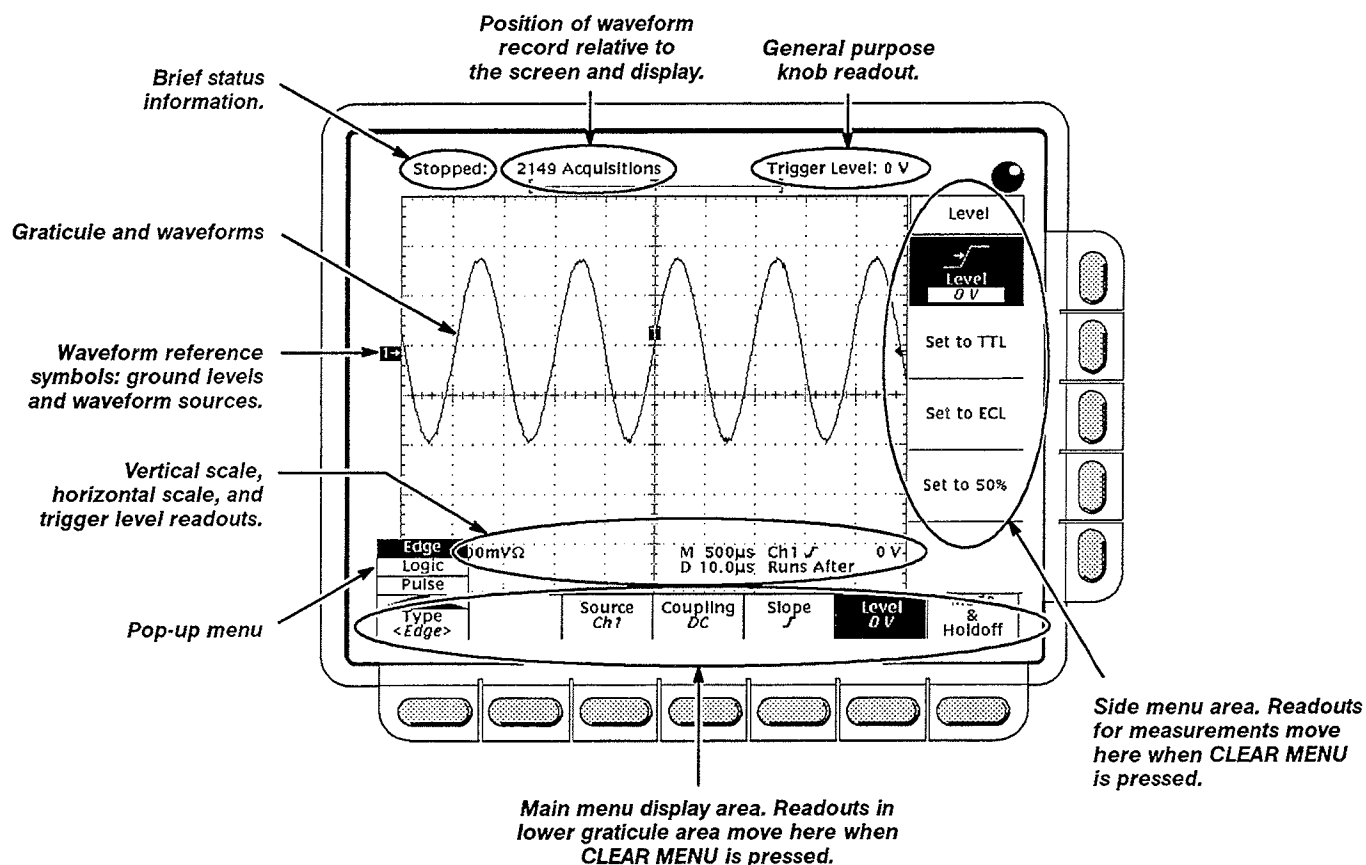

Figure 2-1: Map of Display Functions
The screen layout is illustrated in Figure 2-1 on page 2-14. Note that the figure illustrates a full graticule; you may also select a grid, crosshair, or frame graticule from the display menu.
- The general purpose knob has a readout area at the upper right corner of the screen. (See Figure 2-1.) This readout always reflects the name and value of the function that the general purpose knob is currently controlling.